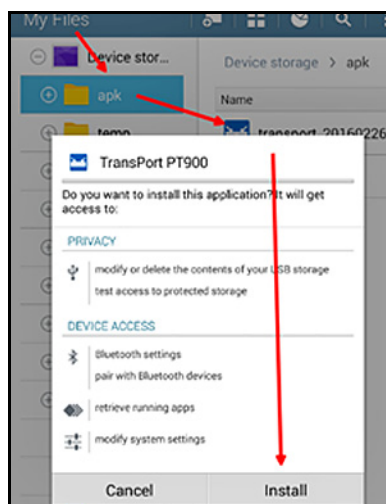

Figure 5: Initial Installation Screen
3. Click on the APK file, and the *Android* operating system will verify the checksum and signature for the file. Depending on whether this is an initial installation or an update installation, you will see a screen similar to *Figure 5* below. Click “Install” to begin the installation.